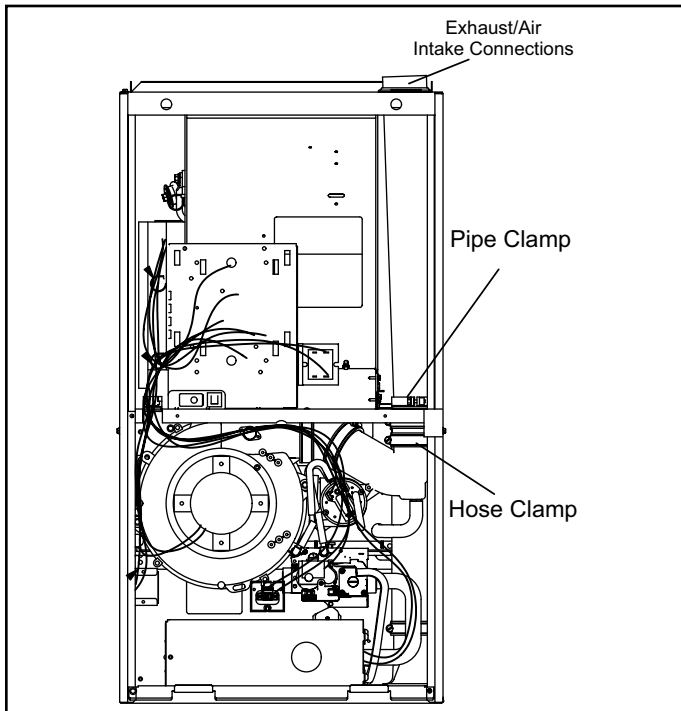

Figure 13. Top Vent Configuration
This unit is shipped with vent exhaust / air intake connection at the top cap. See Figure 13.
3. Loosen hose clamps that attach rubber fittings to the white PVC pipes inside the vestibule area. See Figure 13.
4. Loosen the clamp that secures the pipes at the blower deck. See Figure 13.